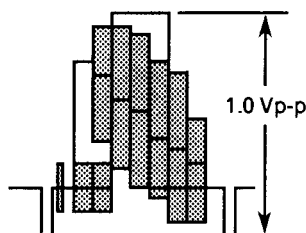

Figure 2-6.
8. Make sure that the amplitude of the playback colour bar signal is 1.0  $\pm$  0.04 Vp-p as shown in Figure 2-6.